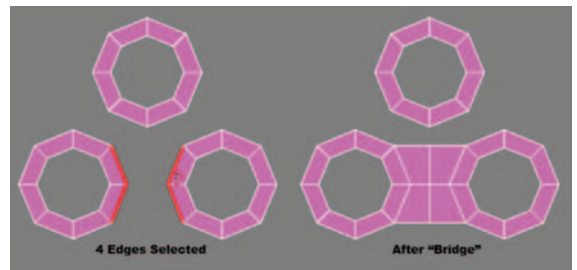

Figure 5.3 Edge selection and resulting bridge.
4. Select the four edges seen in Figure 5.3 and bridge the space between them with a Bridge segment value of 2.